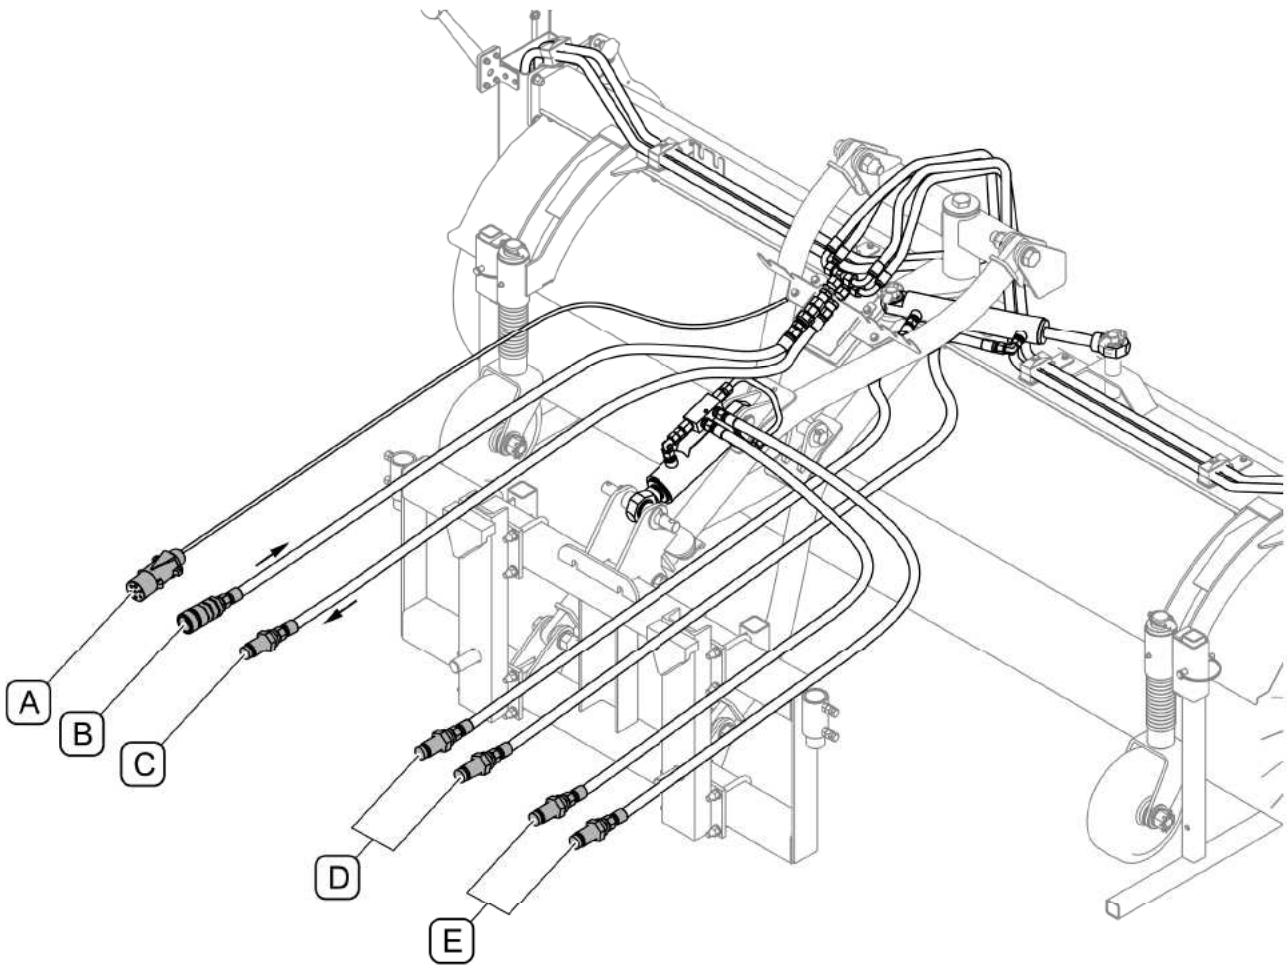
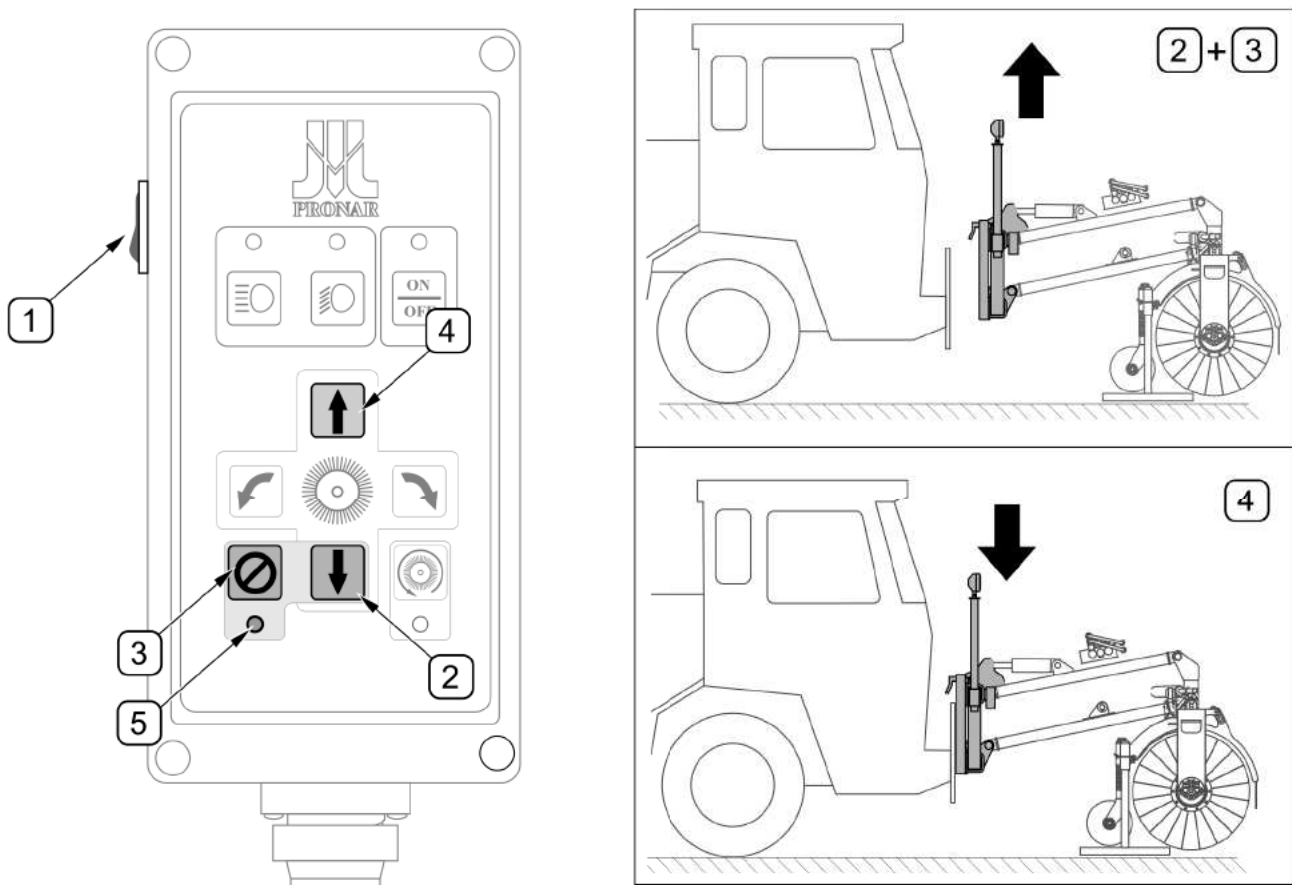
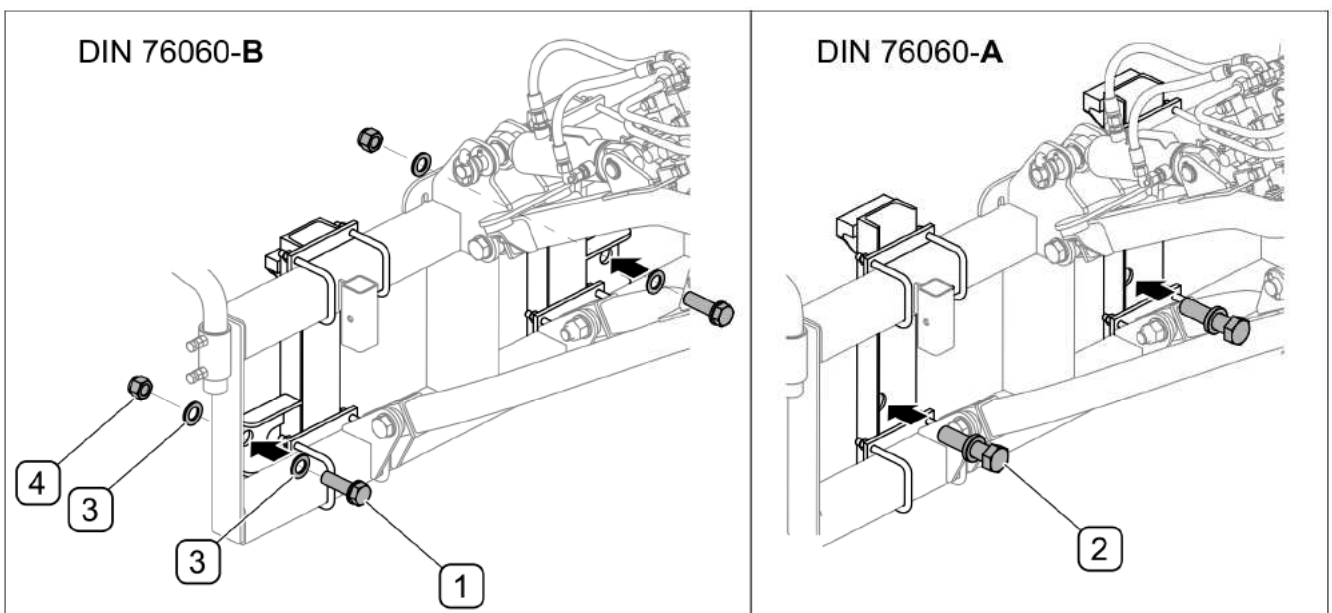
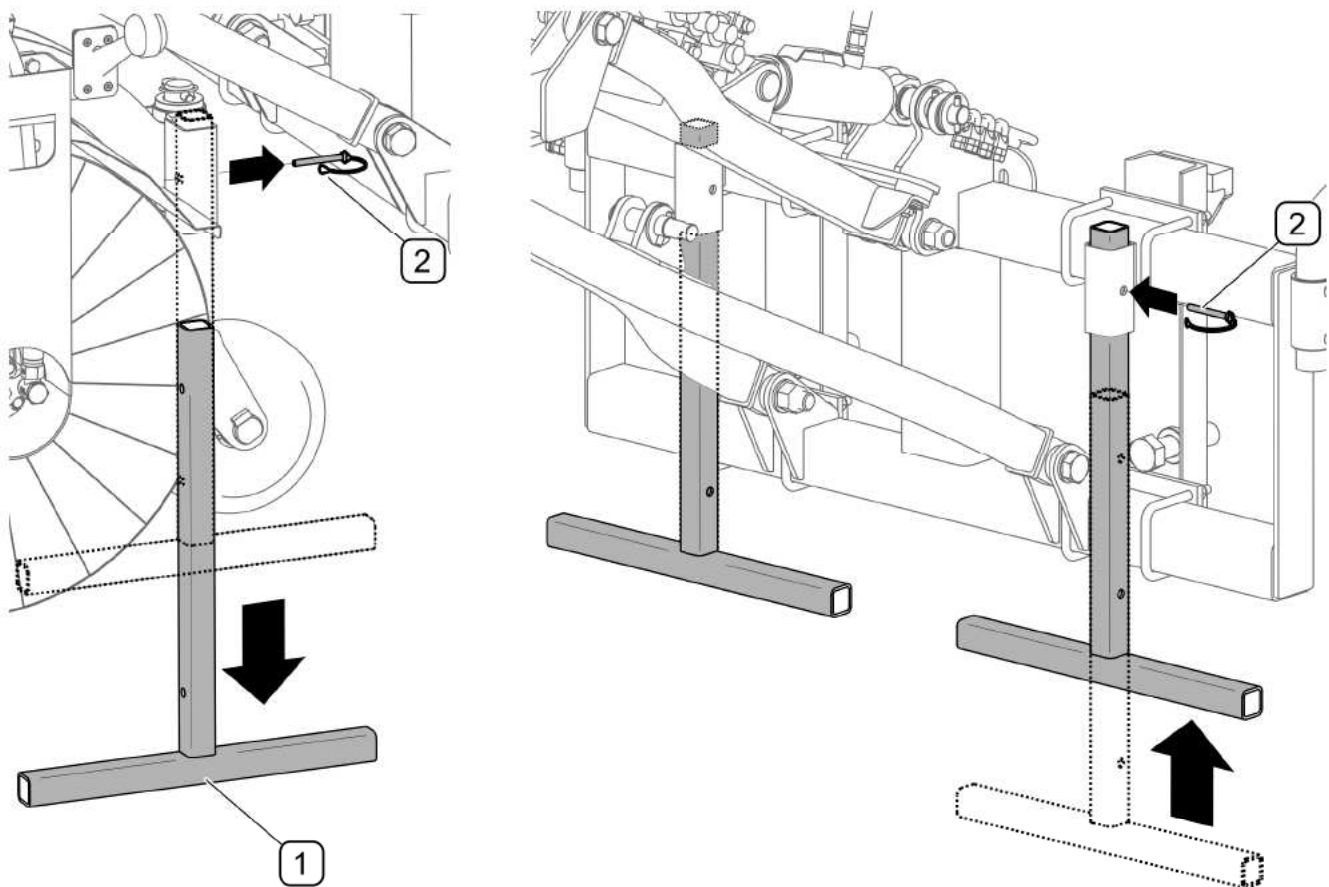

FIG. 4.4 Connecting the electrical system and hydraulic system (ZM-S25U)
FIG. 4.6 Controlling the sweeper during hitching to carrying vehicle (ZM-S25)
FIG. 4.7 Bolts securing the sweeper's linkage (sweeper's equipment)
FIG. 4.8 Dismantling parking stands
ZM-S25U sweeper (for MB UNIMOG vehicles) is designed for connecting with the external hydraulic system of the carrying vehicle (FIG. 4.4). Connect hydraulic conduit connectors (B),(C),(D), (E) and supply plug (A) of the sweeper's clearance lights to proper sockets on the front of the carrying vehicle (FIG. 4.4).
- 2) Switch on the control panel by means of switch (1) (FIG. 4.6) and press push-buttons (2) and (3) simultaneously in such a manner as to position the mounting hooks above the seats of the carrying vehicle's head plate.
4) If the mounting hooks and the carrying vehicle head plate are correctly aligned, operate switch (4) on the control panel (FIG. 4.6) in order to lower the sweeper's linkage onto the carrying vehicle's head plate. Check if correctly installed. Lift the sweeper and check if correctly hitched. Using two bolts, connect the frame of the sweeper's linkage with the carrying vehicle's head plate (FIG. 4.7). Dismantle both parking stands (FIG. 4.8). Place the control panel in the operator cab in an easily accessible place.
(3) on the control panel (FIG. 4.6). In order to lower the sweeper's linkage, press brush rising push-button (4).
- 1) Drive the carrying vehicle to the sweeper's linkage to a distance of about 30 cm from the linkage and immobilise the vehicle with parking brake. Connect hydraulic conduit connectors (FIG. 4.4) to corresponding sockets of the external hydraulic system on the front of the carrying vehicle.
- 4) If the mounting hooks and the carrying vehicle's head plate are correctly aligned, lower the sweeper's linkage until the mounting hooks are set in the seats of the carrying vehicle's head plate. Lift the sweeper and check if correctly hitched. Using two bolts, connect the frame of the sweeper's linkage with the carrying vehicle's head plate (FIG. 4.7). Connect the supply plug of the clearance lights (FIG. 4.4) to the socket of the carrying vehicle's electrical system. Dismantle both parking stands (FIG. 4.8).
(1) - bolt M24X80-8.8-A2J (for B type DIN plate); (2) - securing bolt M30 220N-95050000 (for A type DIN plate); (3) - washer 24-100HV; (4) - self-locking nut M24-8-A2J
Bolts (1) or (2) (depending on type of linkage) prevent the sweeper's linkage frame and the carrying vehicle's head plate from disconnecting (FIG. 4.7)
Depending on type of the carrying vehicle's linkage, (FIG. 4.7) tighten the securing bolts using the following tightening torques:
The sweeper is equipped with two parking stands (FIG. 4.8). To dismantle the parking stand: